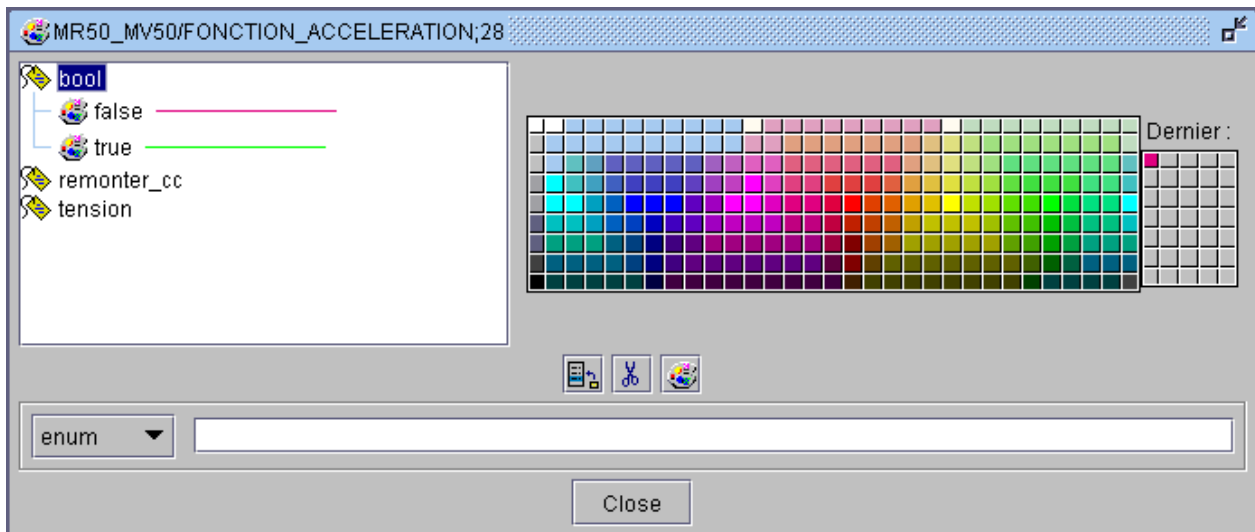

Figure 180 : Boolean variable colours
- ◆ The Links colours window (Figure 180) is displayed: it contains in its right part a colour palette, and in the left part, an area displaying the link colours according to their type.
- ◆ When a new architecture is created, the boolean type is the default type with two colours (Figure 180):